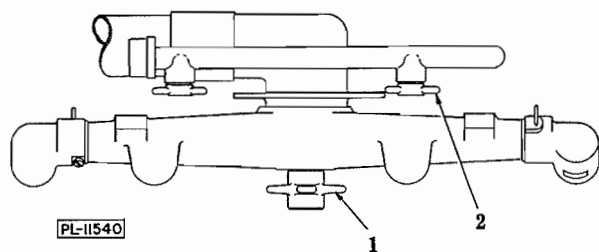

Fig. 10
D.2.2.2 The upper wash arm is removed by unscrewing the hand knob (1, Fig. 10) and withdrawing the arm. Remove wash arm nozzles by loosening thumb screws.
D.3.1.1 Remove the upper rinse nozzle by unscrewing the winged caps (2, Fig. 10). Clean the grooves and central hole in the loose nozzle core.